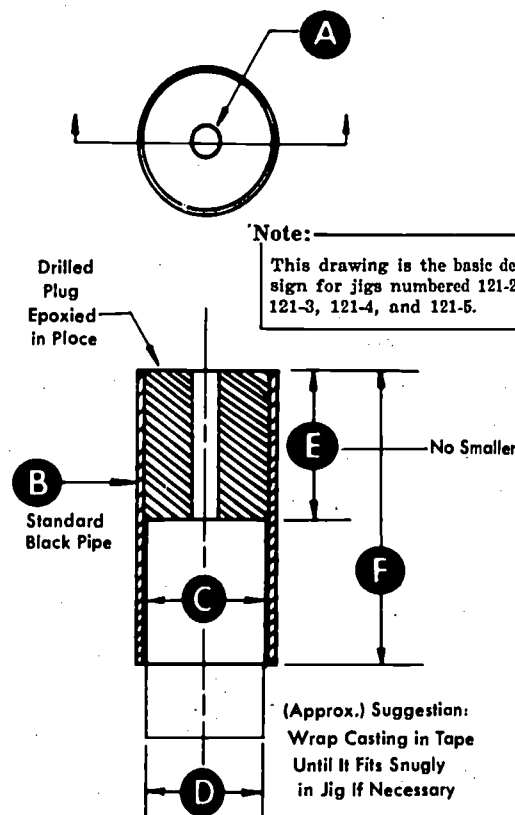

Fig. 121-2. Drilling Tapping Guides for Mallet Head and Tips
5. At work station No. 2, you will drill and tap the holes for the connecting studs. These must be straight to insure a correct fit between the plastic tips and the metal head. Drilling and tapping jigs, Fig. 121-2, will help you keep the drill and the tap straight. Demonstrate drilling and tapping the holes. Caution stu-
- At work station No. 5, you will drill and tap holes for the studs using jigs, Fig. 121-2, to insure that they are straight. Notice that you can actually see the threads being cut through the clear plas-